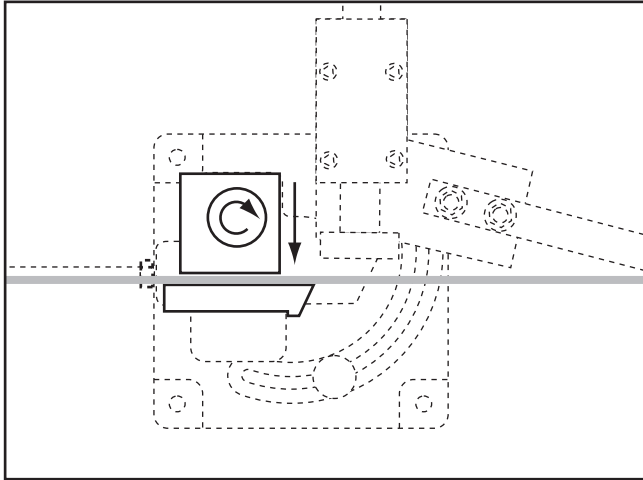

Figure 12. Clamping workpiece.
- Place the workpiece into the clamp and adjust the workpiece position as needed. Rotate the clamp cam shaft to clamp the workpiece (**Figure 12**).